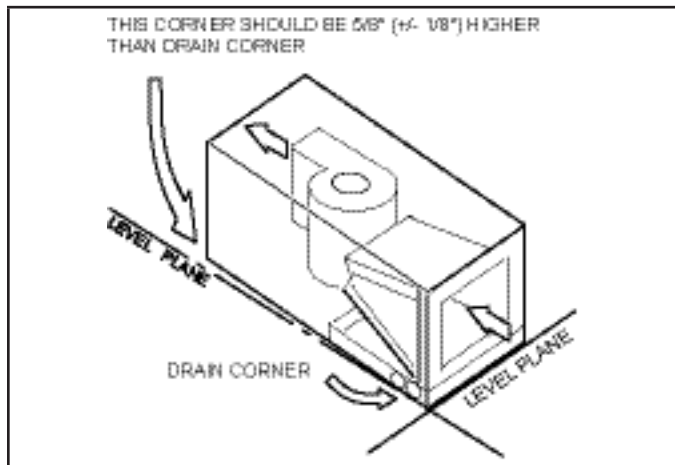

FIGURE 13. Sloping the Unit for Proper Drainage
- 3 - Set unit so that it is sloped toward the upflow drain pan end of the unit and level from front to back of unit (see FIGURE 13).
Make sure the unit is sloped (similar to the slope shown in FIGURE 13) so that the drain pan will empty completely without water standing in the pan.